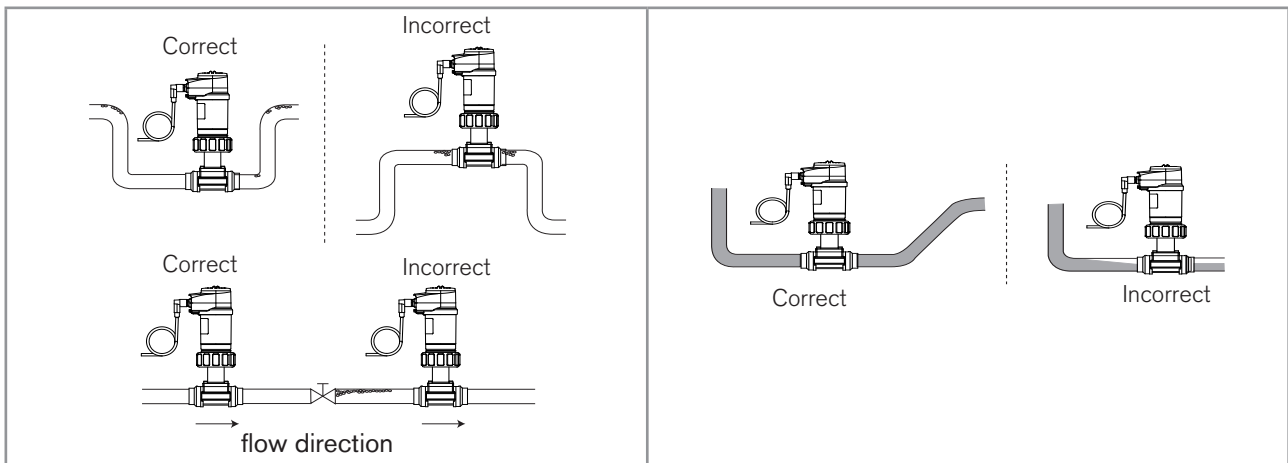

Fig. 8 : Air bubbles within the pipe / Filling of the pipe
- air bubbles do not appear in the pipe, in the section around the sensor (Fig. 8).
- the pipe is always filled in the section around the sensor (Fig. 8).
- air bubbles do not appear in the pipe, in the section around the sensor. Refer to Fig. 8, chpt. 8.2.1.
- the pipe is always filled in the section around the sensor. Refer to Fig. 8, chpt. 8.2.1.